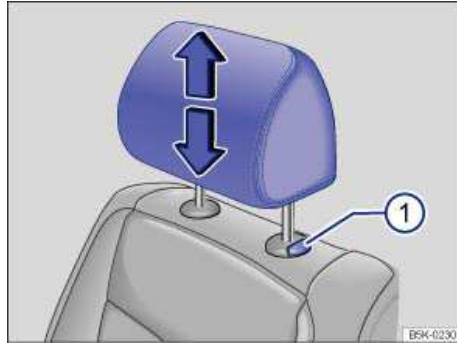
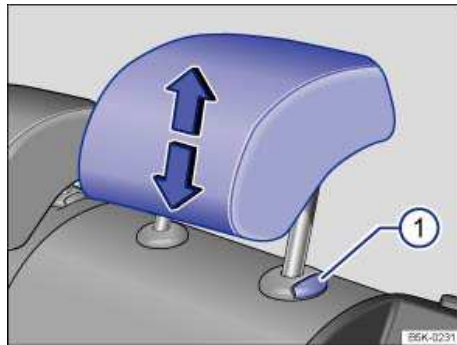

Fig. 63 Adjusting the front head restraints.
Fig. 64 Adjusting the rear head restraints.
- Push the head restraint up in the direction of the arrow or down when the button ⇒ fig. 63 \(1\) or ⇒ fig. 64 \(1\) is pressed ⇒ .